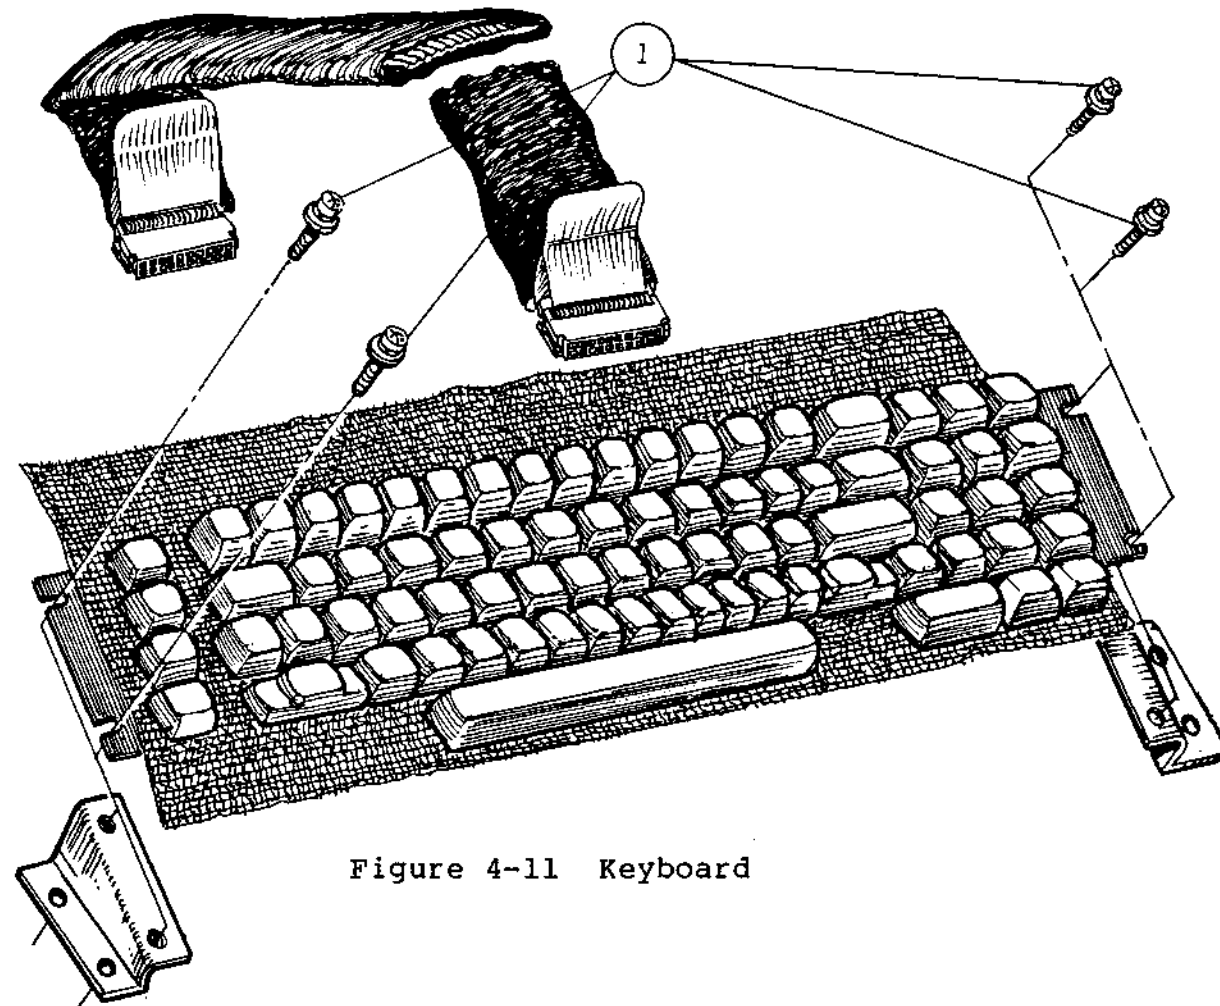

Figure 4-11 Keyboard
4.6.1 Disassembly (Figure 4-11)
- d. Remove four screws (1) securing keyboard to the base and remove the keyboard (refer to Figure 4-11).
Reverse the disassembly procedures (Figure 4-11) described in Section 4.6.1.